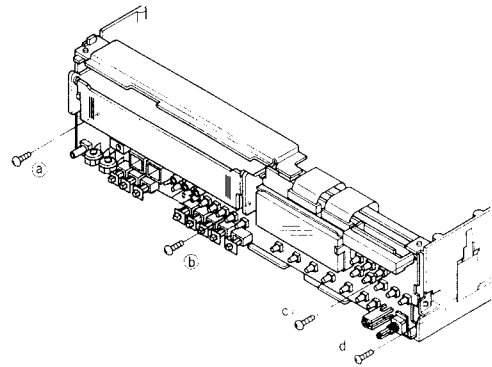

Fig. 2-9
- 2) Remove the four screws (a, b, c and d) retaining the PCB TIMER and then remove the PCB TIMER as shown in Fig. 2-9.